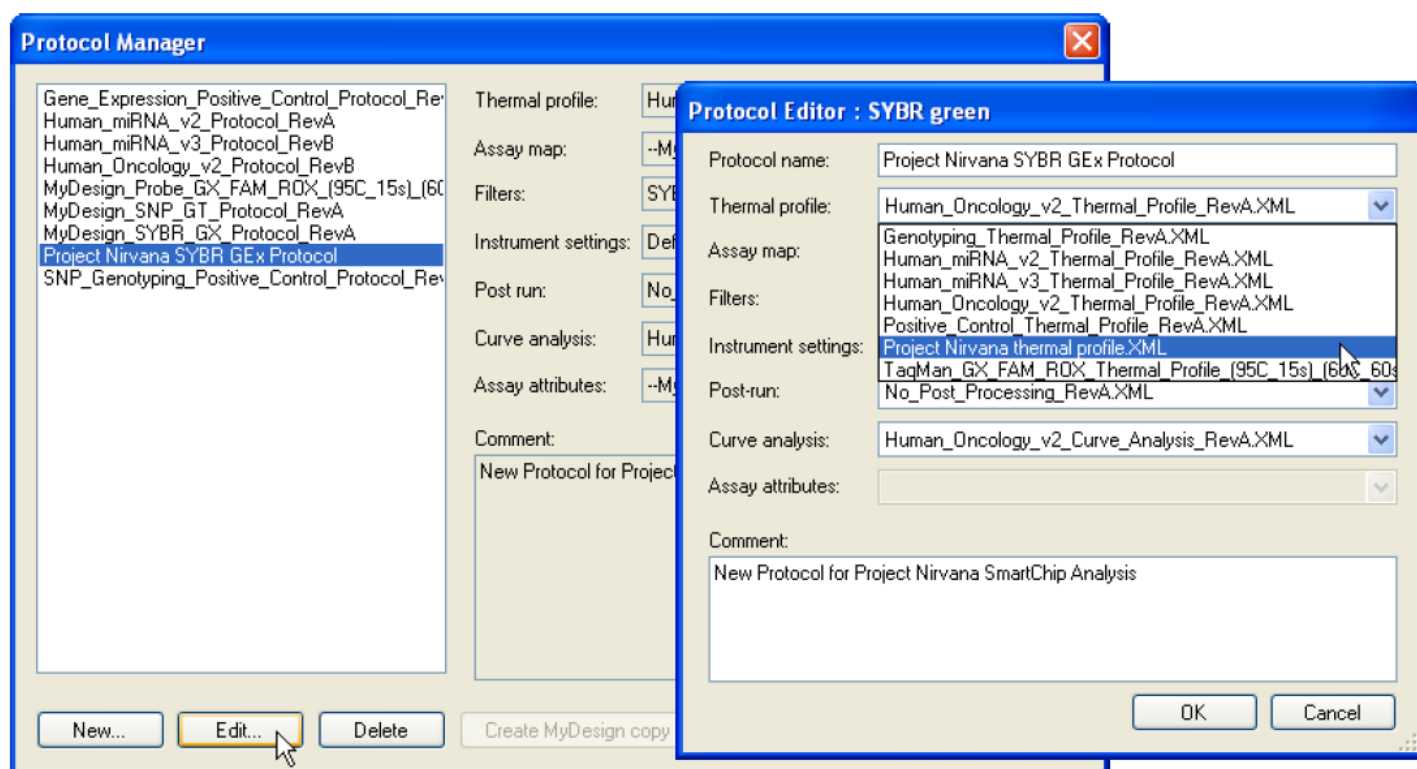

Figure 21. Pulling the modified thermal profile into your new protocol.
- e. Pull the modified thermal profile into your new protocol file (Figure 21):